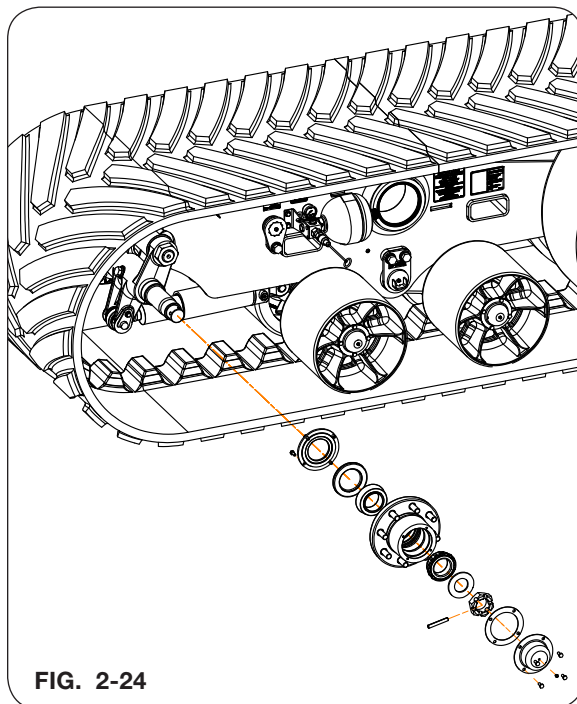
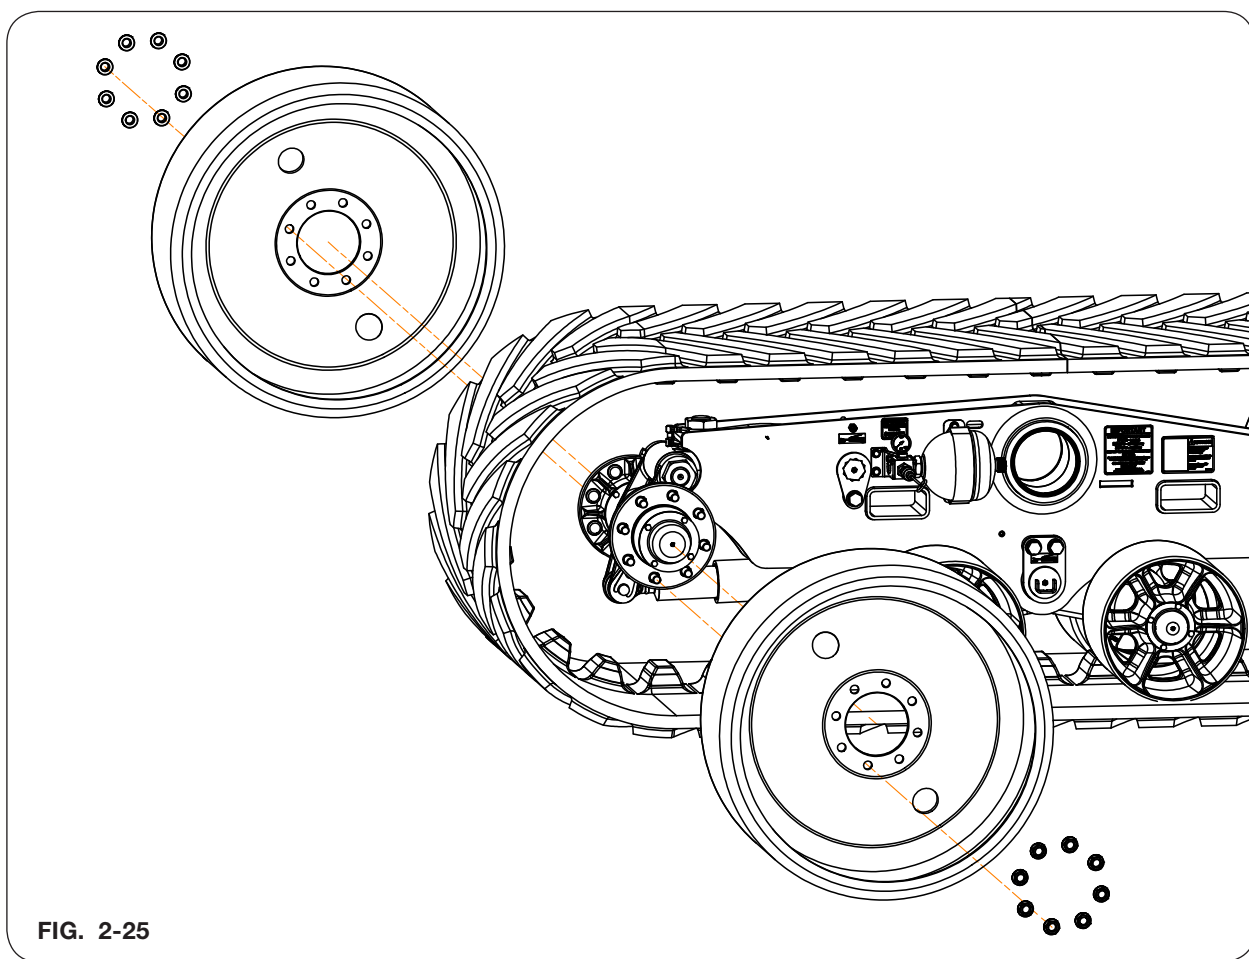

FIG. 2-24
FIG. 2-25
15. Replace the hubs and wheels onto the spindle (FIG. 2-24 & FIG. 2-25). Torque wheel nuts per torque charts in this manual. Refer to this manual for proper tightening of slotted hex nuts. Refer to your operators manuals MAINTENANCE section for specific instructions on how to tighten the bearings for the wheels.